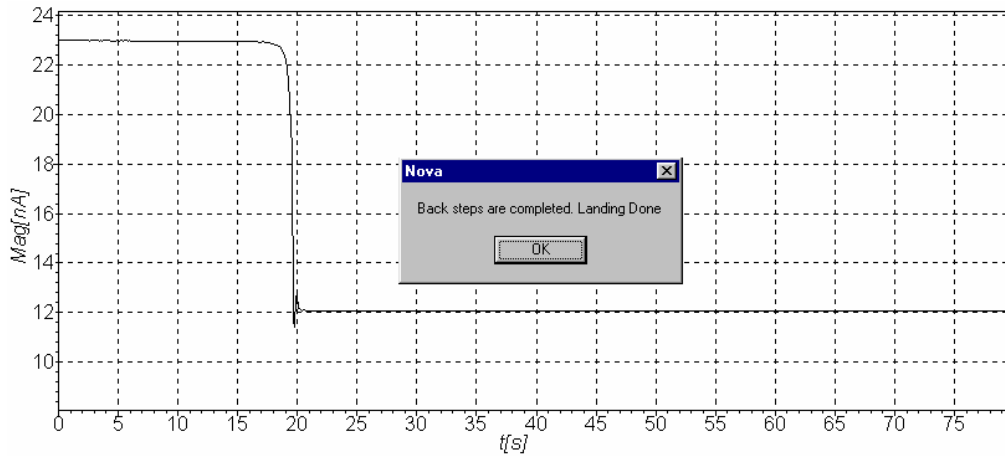

Fig. 4-22
- **MAG(t)** dependence in the programmed oscilloscope would display reducing **MAG** signal down to the value of **Set point** parameter (Fig. 4-22);
- A window with an **OK** message would appear in the oscilloscope's window background (Fig. 4-22).